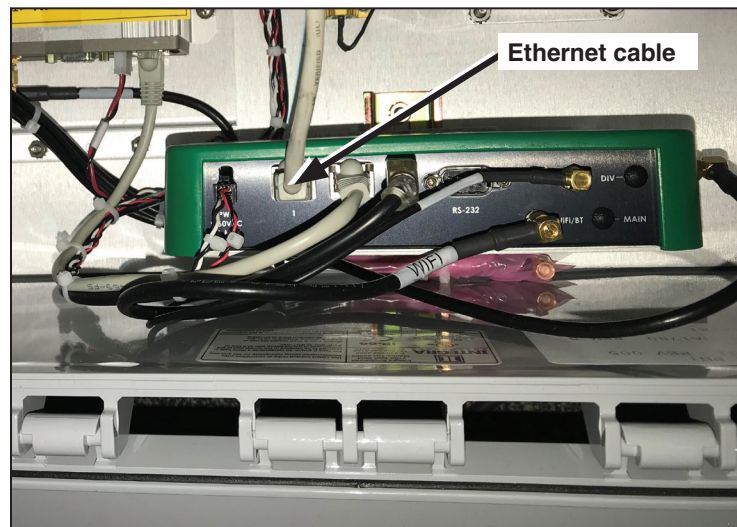

Figure 2. Connect an Ethernet cable to the gateway controller module.
STEP 1. Connect a CAT5 Ethernet cable to the Ethernet port on the PC. Connect the other end of the Ethernet cable to Ethernet Port 1 on the green gateway controller module inside the communications gateway cabinet, see Figure 2.